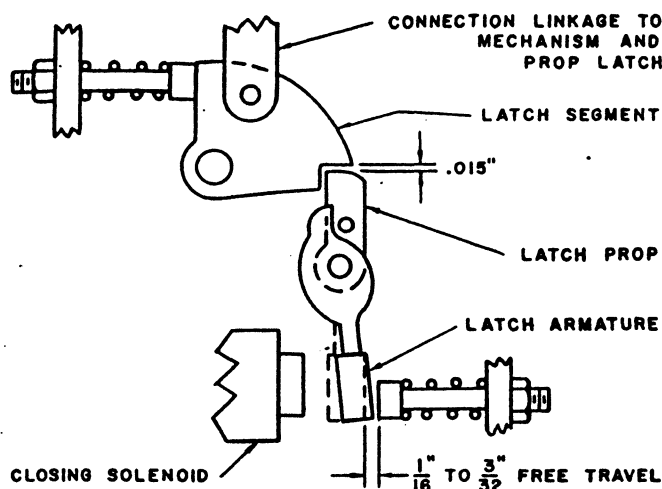

FIGURE 13
4. Opening latch clearance: See schematic, Figure 13.